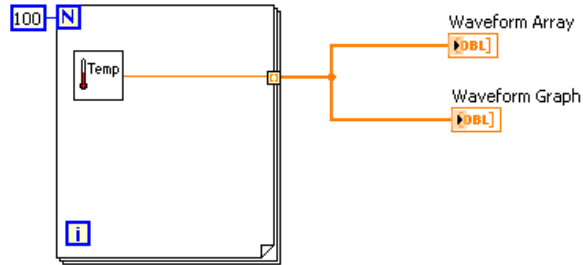

Figure 7.17
1. Build the block diagram shown in Figure 7.17.
- c. Wire the block diagram as shown in Figure 7.17.